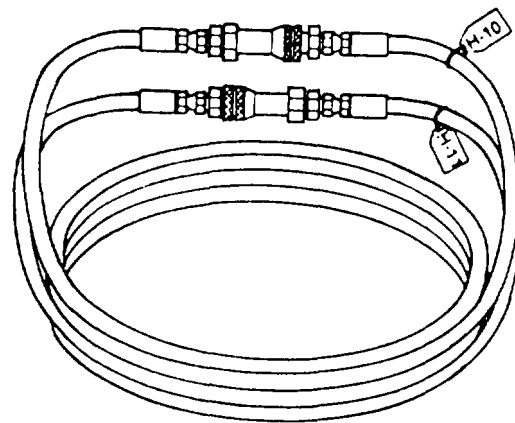

Figure 5-14. Extension Hoses
- d. Roll up hoses H- 10 and H- 11 and connect ends together (Figure 5-14). Return them to tool box.